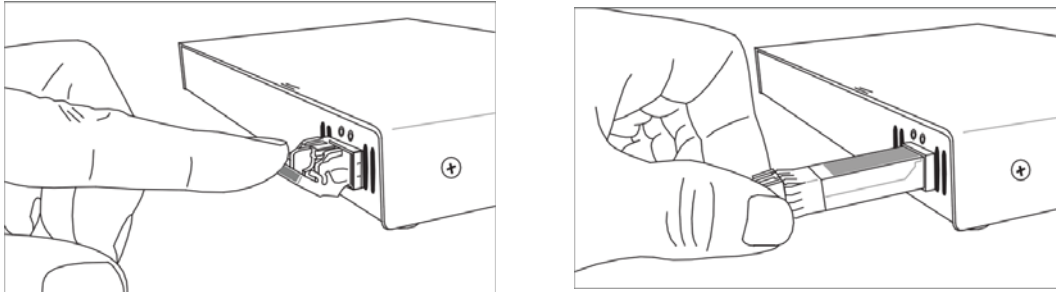

FIG. 62 Flip transceiver latch out and down, pull transceiver free from socket
2. Using the tip of the index finger, swing the transceiver latch out and down. Note that the orientation of DXLink Fiber Boards varies from system to system (FIG. 62):